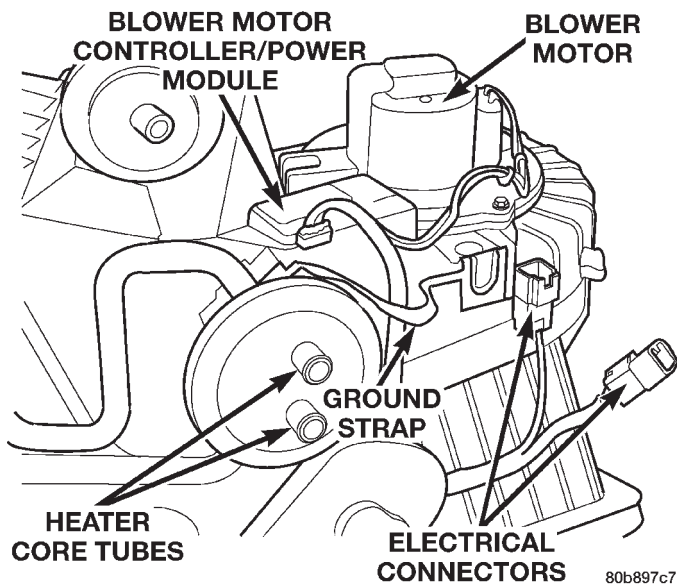

Fig. 25 Blower Motor (housing removed from vehicle)
(1) Disconnect and isolate the battery negative cable.
(2) Pinch the connector retainer and unplug the blower motor wire harness from the heater-A/C blower motor (Fig. 25).